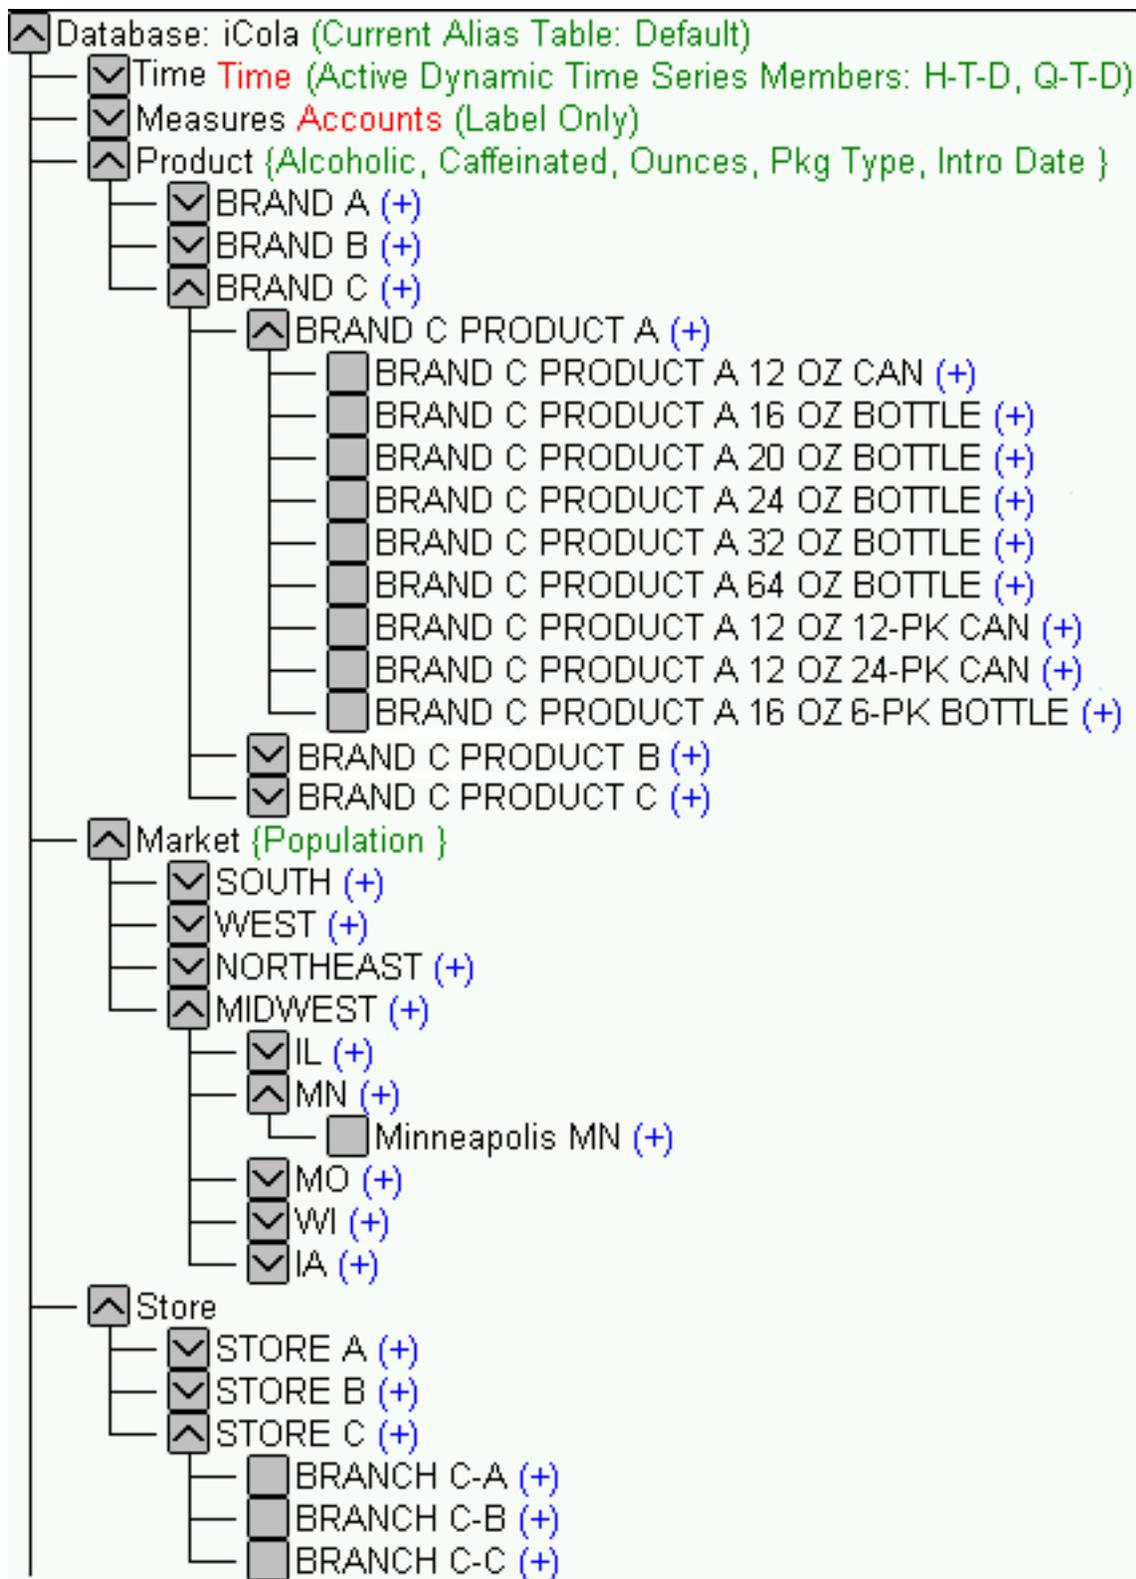

Figure 8: iCola's PRODUCT, MARKET, and STORE dimensions.
- Figure 8 illustrates how the PRODUCT, MARKET, and STORE dimensions are expanded in the cube outline: